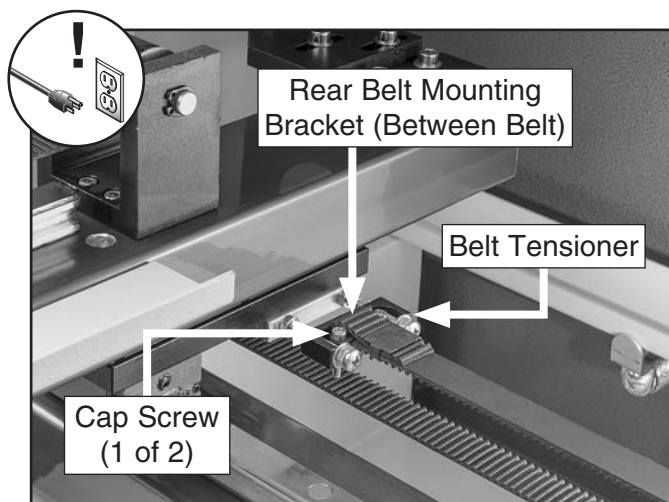

Figure 84. Y-axis rear belt mounting bracket location.
4. Remove (2) cap screws on rear belt mounting bracket securing Y-axis synchronous belt, then remove bracket from belt (see **Figure 84**).